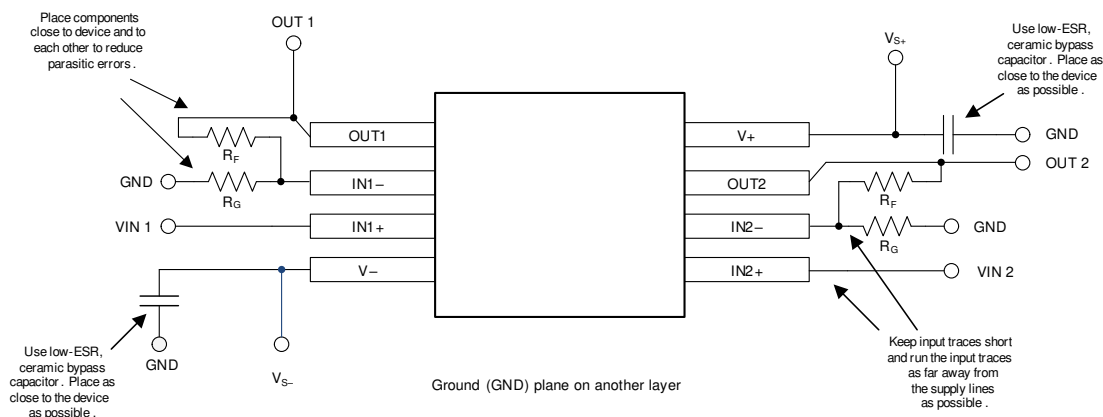

Figure 7-8. Layout Example
- Place the external components as close to the device as possible, as shown in Figure 7-8. Keeping R_F and R_G close to the inverting input minimizes parasitic capacitance.